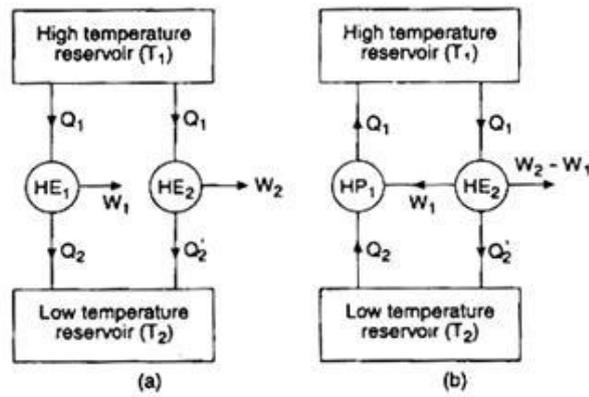

Fig.3.17 - Carnot corollary-2
- ▶ As shown in Fig.3.17 - Carnot corollary-2. The efficiency is same because both are reversible engines and work on the Carnot cycle. Efficiency depends only upon the temperature of the reservoirs. So, work is produced by engine E equal to work is required to heat pump R.